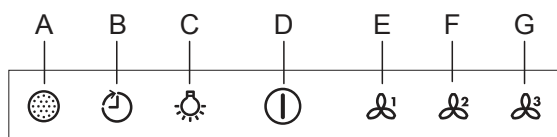

Fig. 16
- The control switches are located on the front panel of the unit. See Fig. 16 below.